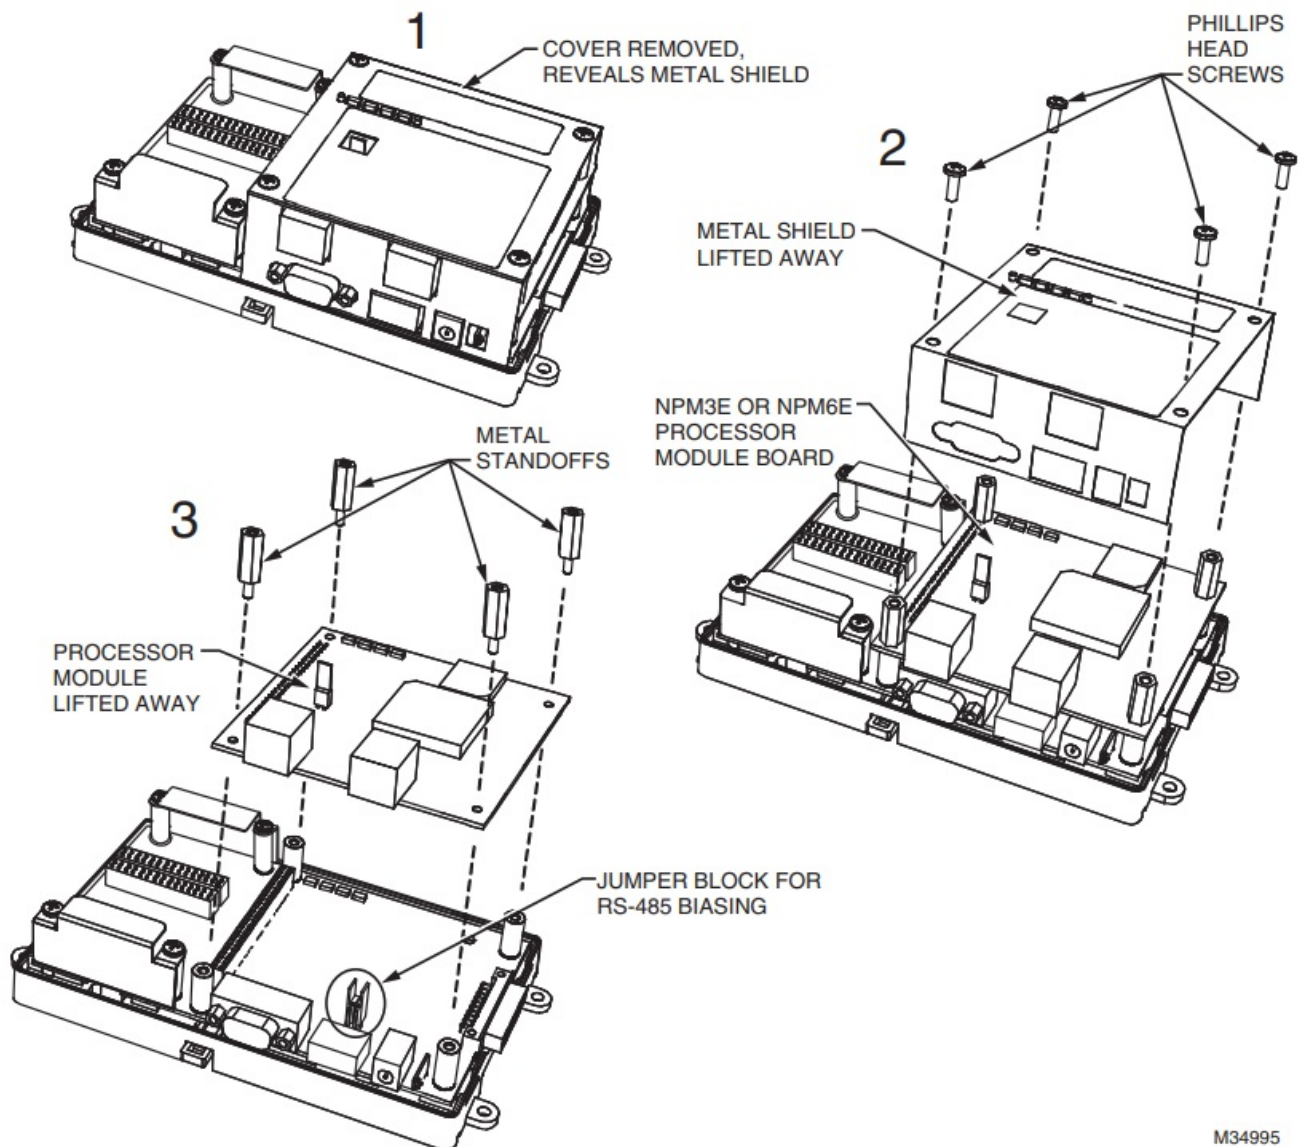

Fig. 7. Basic stages of controller disassembly.
bottom of Fig. 7).
1. Carefully replace the processor module board onto the 50-pin connector, with its corner mounting holes aligned on the four lower standoffs. Press down on the connector to fully seat the board. See Fig. 7 on page 11.